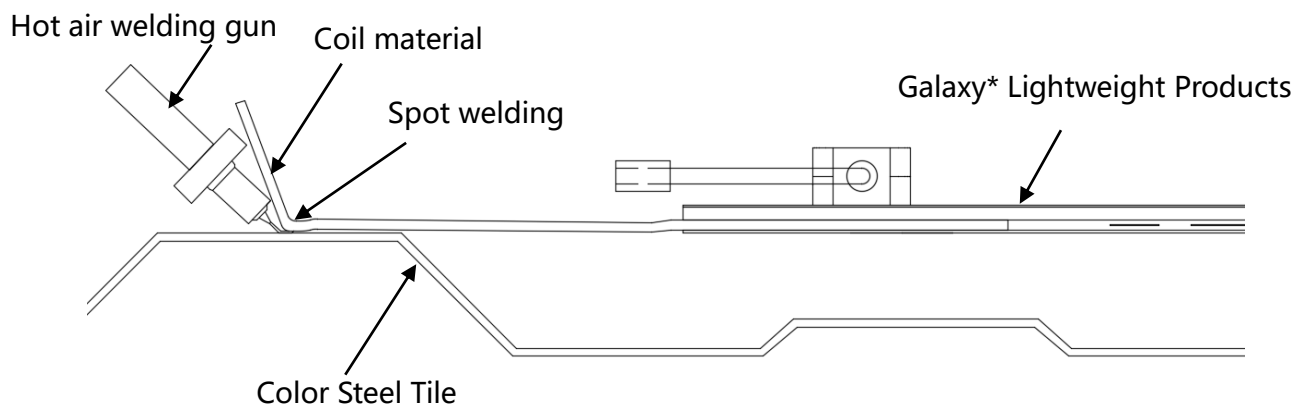

Figure 2
- Lift the coil of Galaxy* lightweight products slightly and use the hot air welding gun to spot weld first to fix the Galaxy* lightweight products on the metal roof (as in Figure 2).